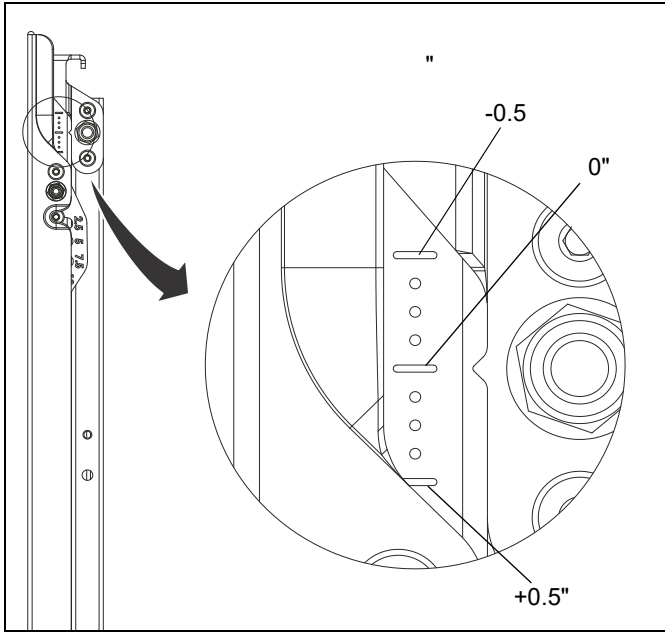
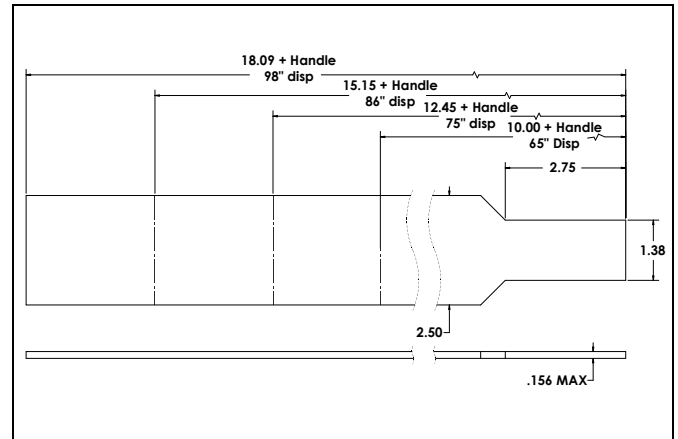

Figure 29
Figure 30
- Refer to the dimensions in Figure 29 or use template and table provided on page 19 to create a shim tool from cardboard or another similar rigid material. (See Figure 30)